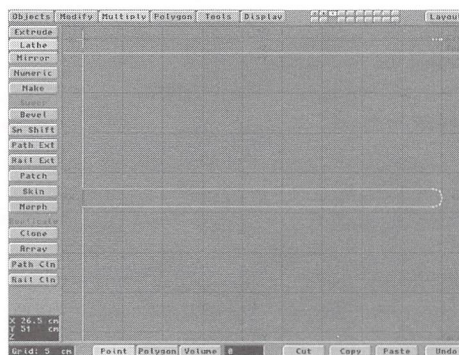

Figure 1
- Select the points in a clockwise fashion and create a polygon (p) to lathe into the tabletop (Figure 1).